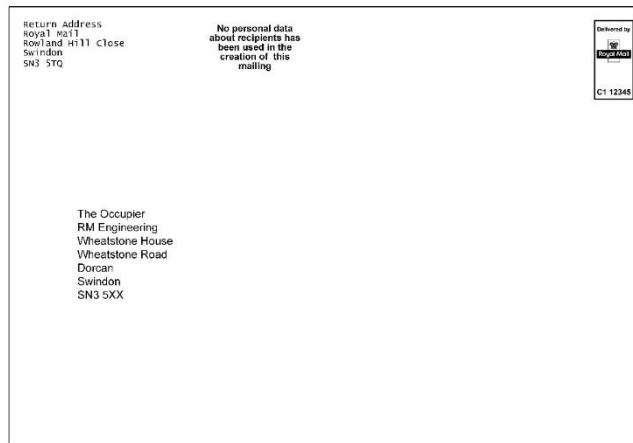
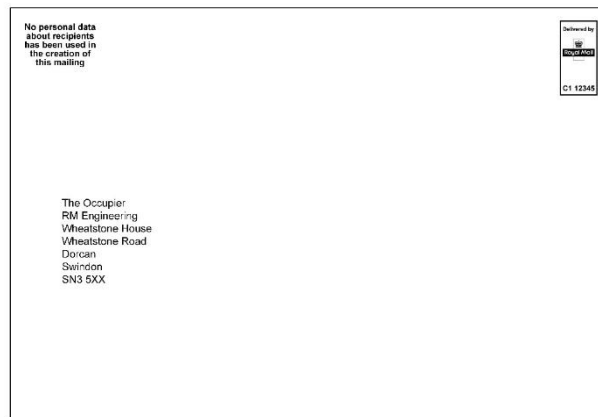
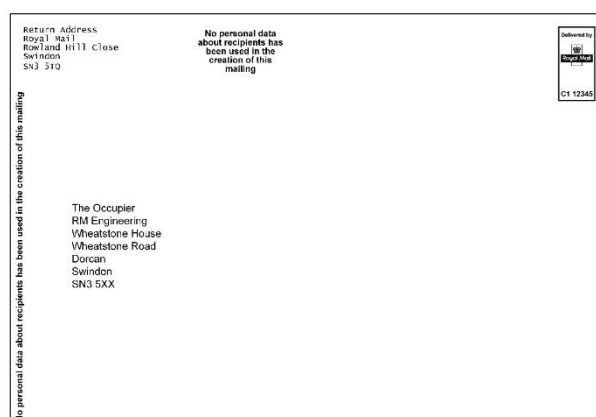

Figure 37: Mailing Item bearing Declaration and return address on the front
Figure 38: Mailing Item bearing Declaration but no return address on the front
Figure 39: For postcards only, the Declaration location can be placed in either of the positions shown
- c. where a Return Address is also included on the front of the Mailing Item, be placed in the location shown in Figure 37 below, or, where a Return Address is not included on the front of the Mailing Item, be placed in the location shown in Figure 38 below:
- d. or, in the case of postcards, the Declaration may, as an alternative to Figure 37 and Figure 38 above, be printed linear format, in any readable font, on the vertical left edge of the Mailing Items. Figure 39 below illustrates the two alternatives for the position of the Declaration for postcards: